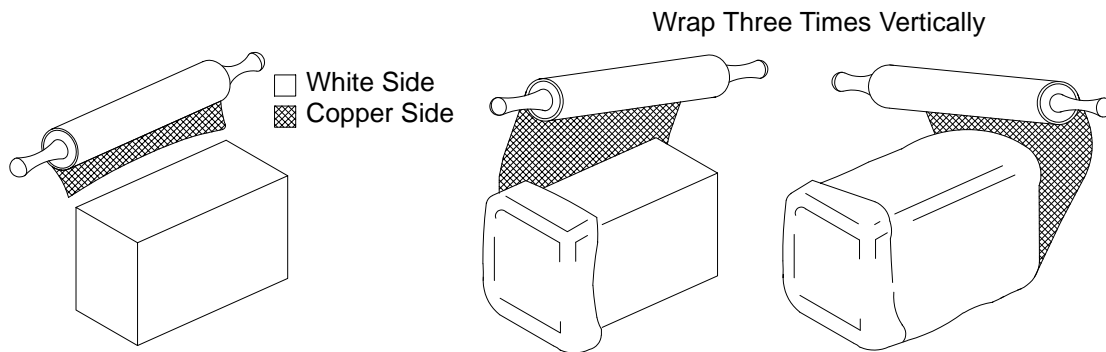

Figure 12. Vertical Wrap
2. Place three wraps in a vertical direction with the *copper* side facing the item being wrapped (figure 12).